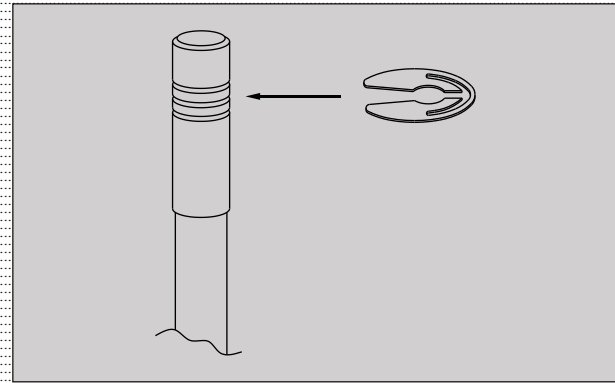

Fig. 4.31
- Do not change the position of the 'E' ring on jet needle (2nd from the top notch) (Fig. 4.31) and jet sizes which will have effect on the engine performance and lead to premature wear of engine parts, decreased fuel economy and poor pick-up.